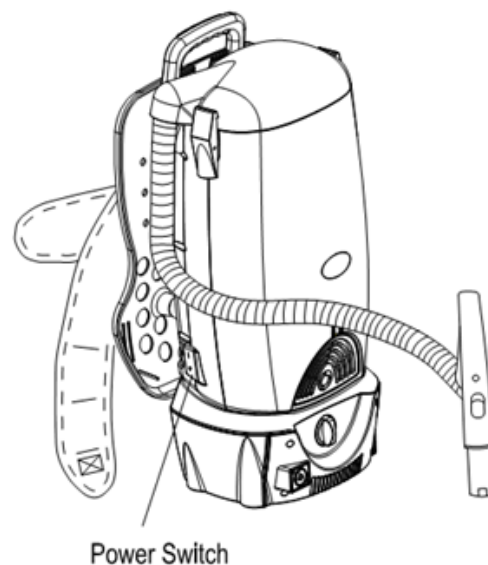

FIG 14
4. Turn the unit on by pressing the switch located near the base of the unit to turn the vacuum cleaner on. (Fig.14)